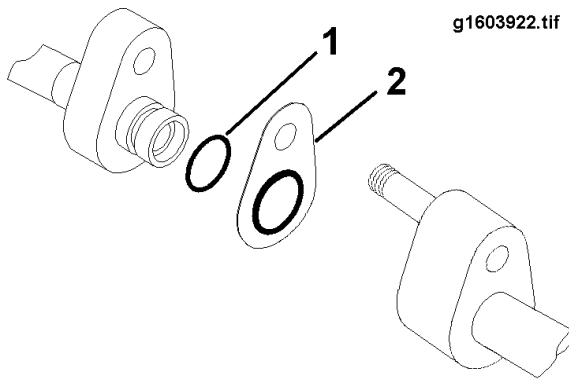

Figure 22 A/C Fitting C-Plate and O-Ring
- F. Anytime an A/C fitting is disconnected, the O-ring and/or C-plate must be replaced (Figure 22). The new O-ring must be lubricated with **MINERAL-BASED** oil. The C-plate does not require lubrication. Never use grease, penetrating oil, motor oil, Ester or PAG oil, etc. to lubricate O-rings and fittings.